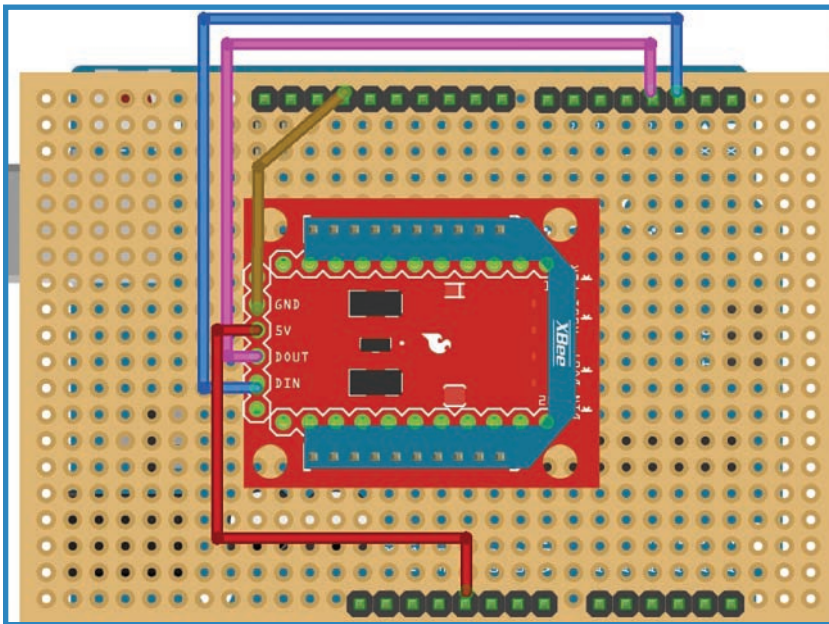

FIGURE 11.12 Add the XBee Explorer.
- b. Solder the XBee Explorer to the board and use wires to connect its pins to the appropriate Arduino pins. Data out (the pink wire in Figure 11.12) goes to pin 3 of the Arduino, while data in (blue) connects to pin 2. Power (red) and ground (brown) connect to their respective pins on the Arduino.